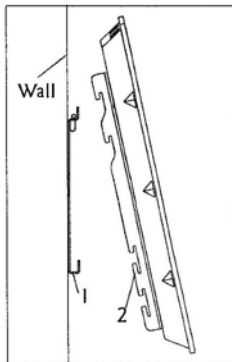
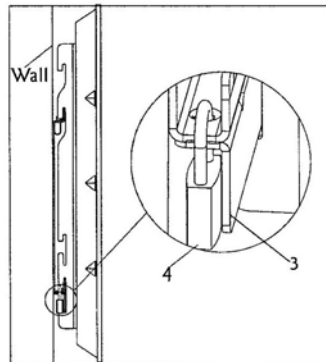

Fig 3a
Fig 3b
Firstly lift the bracket mounted display over the wall mount. And then hook the brackets over the top of the wall mount. Rotate the display letting the bottom of the brackets hook over the bottom of wall mount, as shown in Fig. 3a. Then use the Locking bar (4) to prevent the display from being removed or accidentally knocked off the wall plate. For additional security, install small padlocks (5) through the provided lock holes, as shown in Fig.3b.